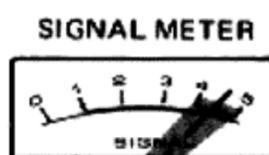

Fig. 8
2. Turn the TUNING knob to select desired station. Tune for maximum deflection of the SIGNAL meter toward the right, as shown in Fig. 8.